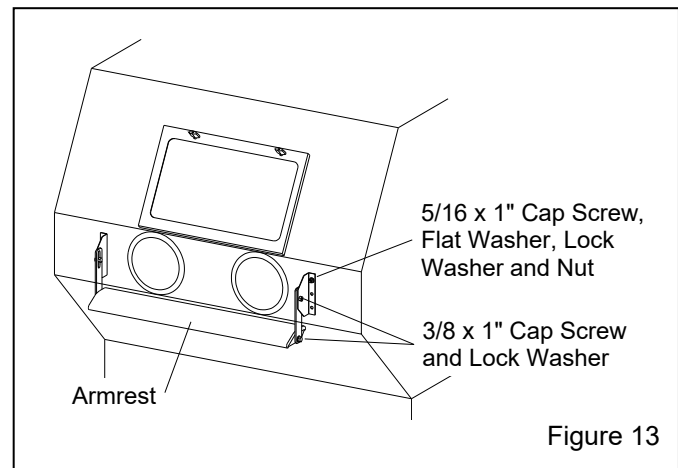

Figure 13
3.4.1 Assemble the armrest and mounting brackets, as shown in Figure 13.